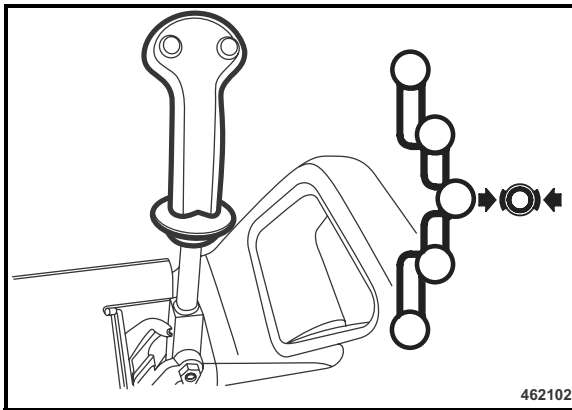
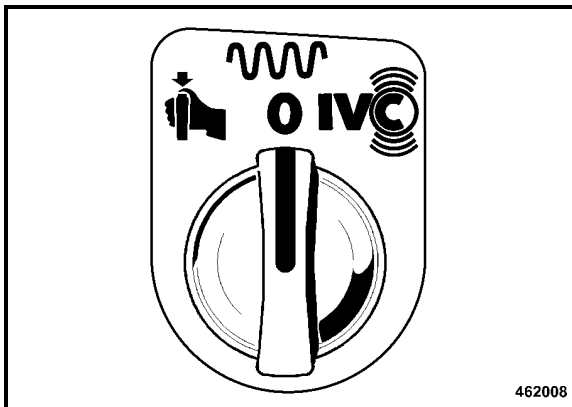

Fig. 78
Fig. 79
- Shift the travel lever (Fig. 78) in direction "0" to decelerate the machine, or turn the rotary switch for vibration pre-selection to position "0" (Fig. 79).